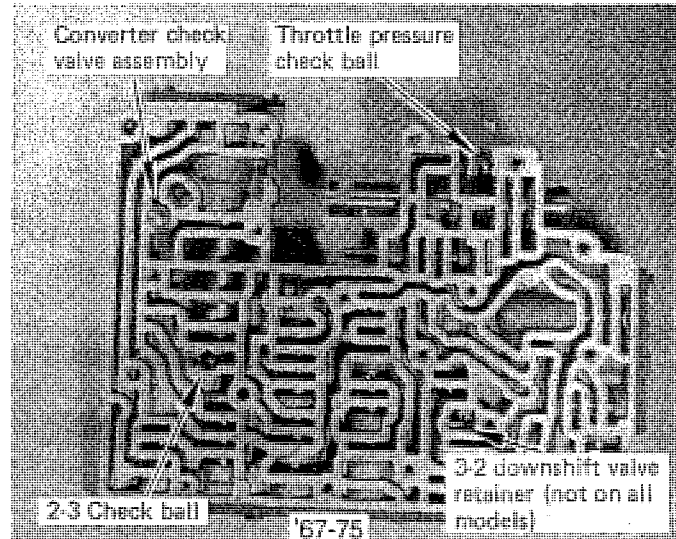
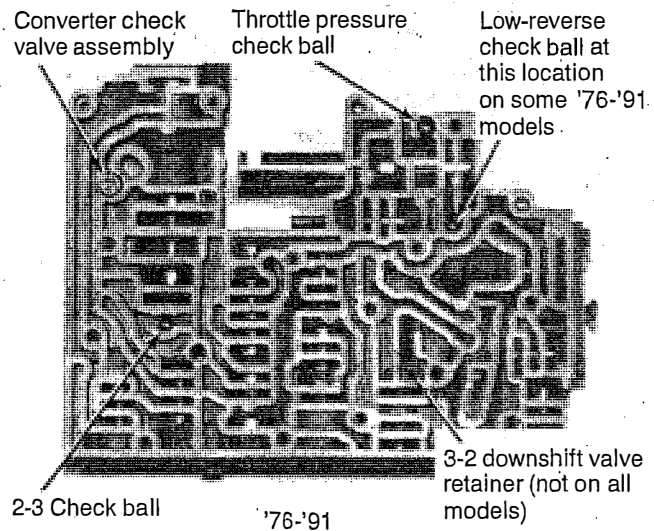

FIGURE 6
FIGURE 6A
This is a small steel valve or ball with a fine pitch spring. (See Fig. 6) Set them aside so they won't be confused. (The check valve may be stuck to the separator plate). Remove the throttle pressure check ball assembly. (See Fig 6 or 6A) This ball uses a coarse pitch spring. Set it aside so it won't be confused. Remove the 2-3 check ball from its pocket. (See Fig. 6) Do not lose the 3-2 downshift valve retainer. Note: Some later models have a low-reverse check ball. (See Fig. 6A) remove and set aside.
**STEP 13.** Lay casting on bench with passages facing up. Install converter check valve assembly into place. (See Fig. 6) Install throttle pressure check ball assembly into place. Install 3-2 downshift valve retainer into place. Install low-reverse check ball (if equipped).
**STEP 17.** Install separator plate - transfer plate assembly on to casting. Make sure check valve assemblies are in position (See Fig. 6). Make sure throttle pressure check ball contacts